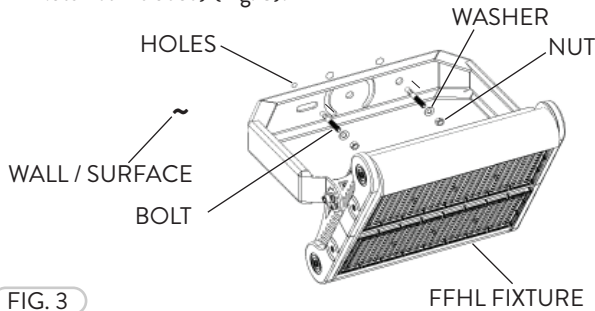

FIG. 3
- 3 The Trunnion Mount can be mounted to a Wall/Surface. Align the Trunnion Mount to the holes pre-drilled on the mounting surface and bolt the fixture to the wall (appropriate mounting Bolts, Washers, and Nuts not included) (Fig. 3).